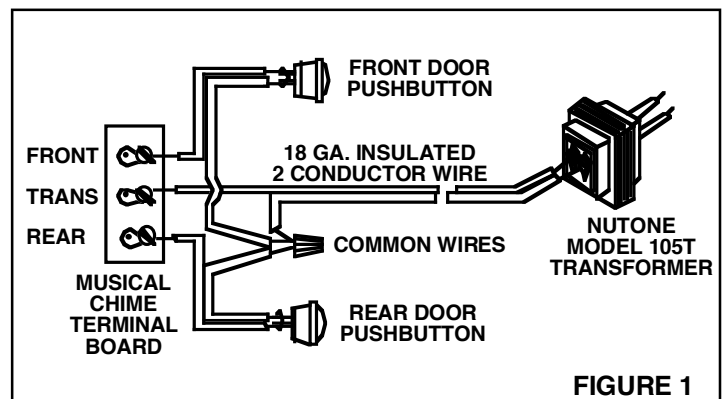

FIGURE 1
Refer to Figure 1. If any additional wires (i.e. - side door) are present which are not required by the wiring diagram, cap these wires individually with a wire nut and electrical tape.
4. **Refer to Figure 1.** Connect the transformer and pushbutton wires to the Musical Chime's terminal board.